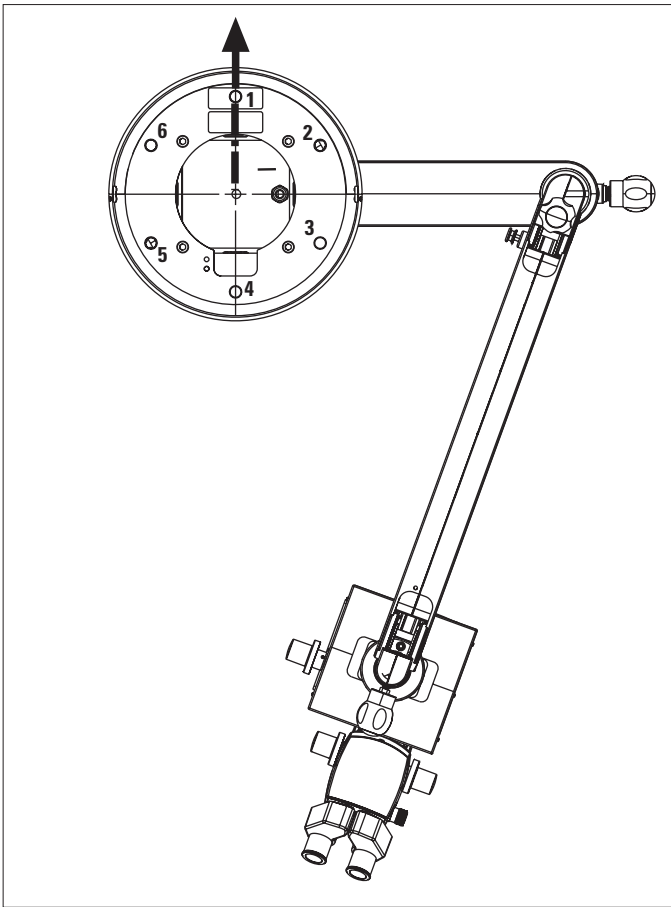

Fig. 1 (View from above)
- ⇒ Position the swing arm with the microscope as far as possible behind Screw **4** (Fig. 1).